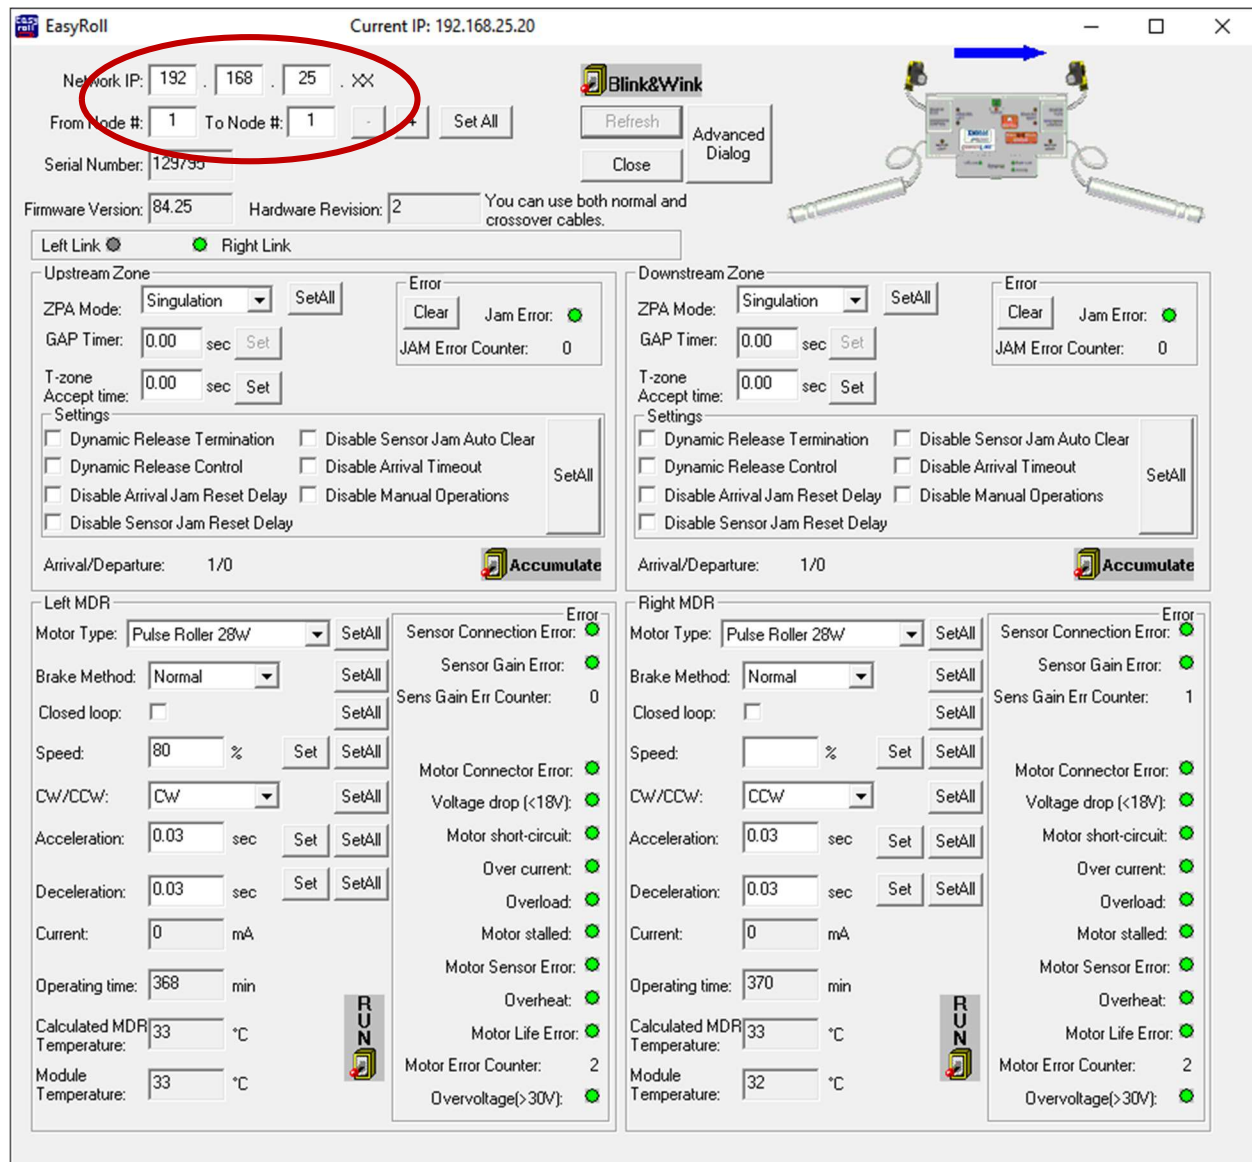

FIGURE 15 - EASYROLL MAIN SCREEN
- Connect to the ERSC that will control the *Merge Zone*. See indicated area in Figure 15